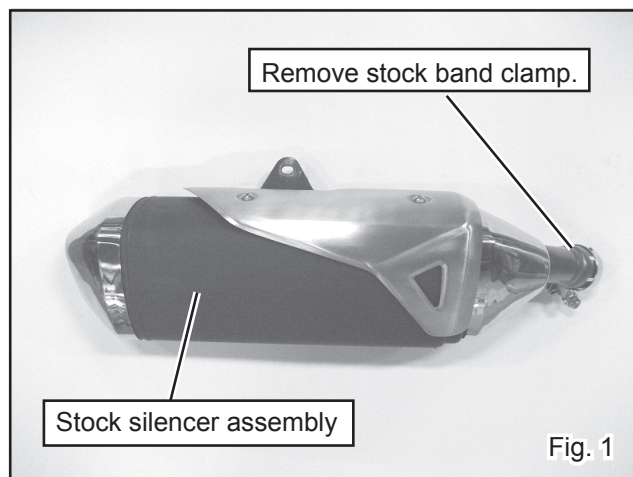

Fig. 1
3) Remove the stock band clamp from the stock silencer assembly. (See Fig. 1)